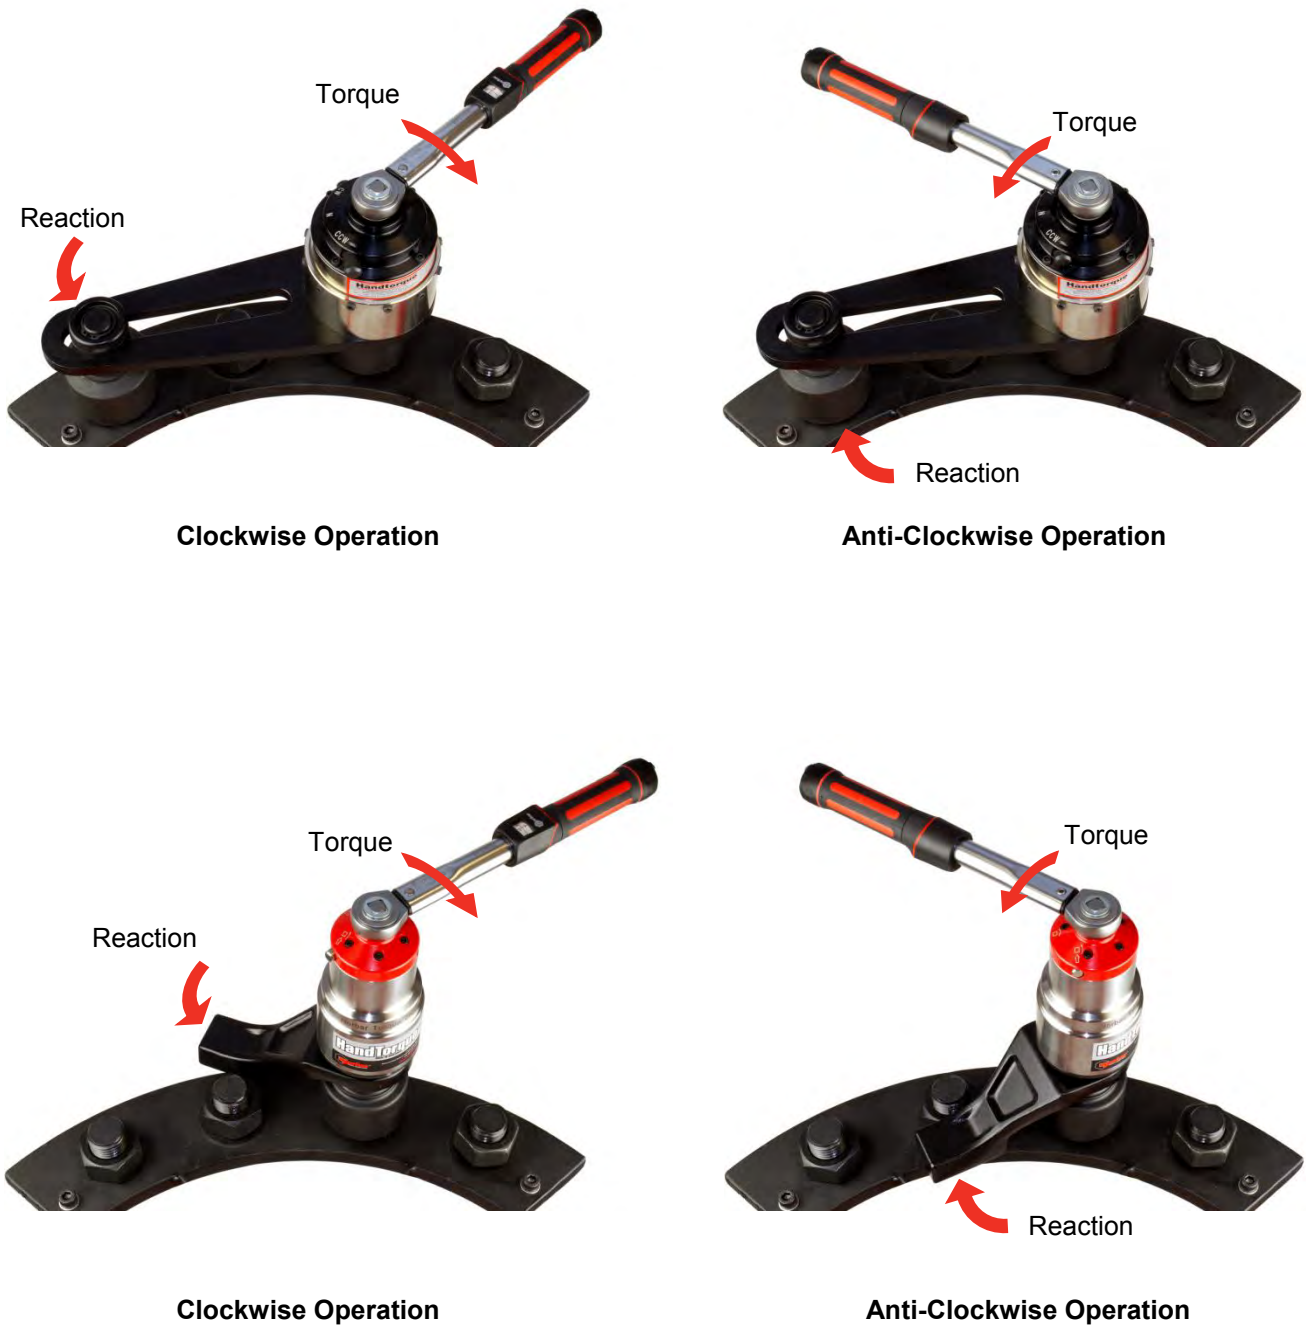

FIGURE 2
When the HandTorque® is in operation, the Reaction Plate rotates in the opposite direction to the Output Square Drive and must be allowed to rest squarely against a solid object or surface adjacent to the bolt to be tightened (see Figure 2).
2. Fit the multiplier to the bolt with the reaction plate adjacent to the reaction point. See Figure 2.